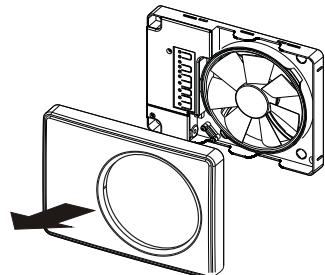

Fig. 4
- Remove the front cover by releasing the snap fasteners at the bottom or top. Fig. 4